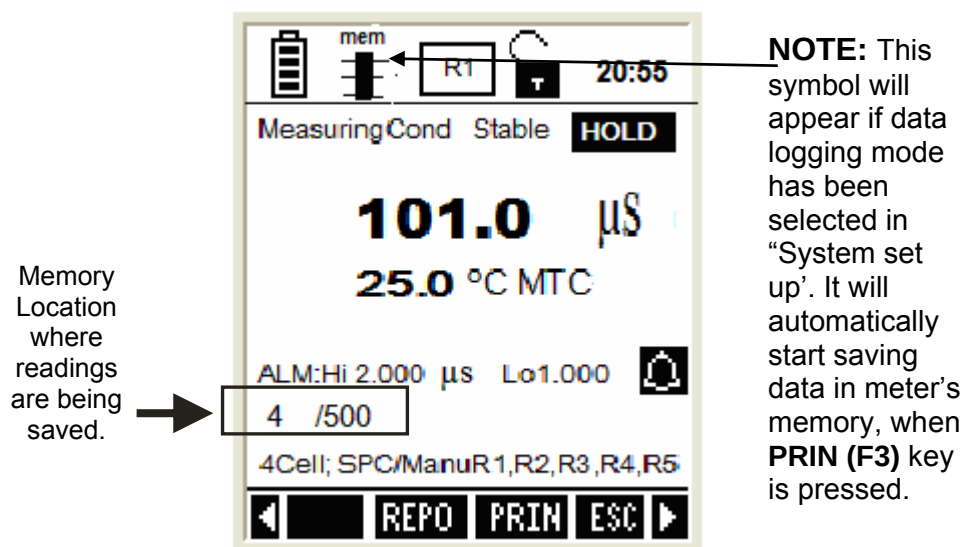

Figure 27 : Saving a reading
2. From measurement mode, press **PRIN (F3)** to start saving data automatically in meter's memory. The memory location of the transferred reading is shown in the bottom-left of the screen. (Figure 27)
3. Press **STOR (F3)** key to store the currently displayed reading. The display briefly shows the memory location where this reading is being saved. (Figure 27)